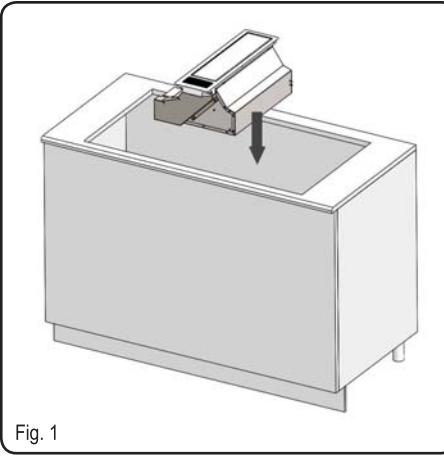

Fig. 1
- Install the product in the hole drilled, inserting it from above (Fig. 1).